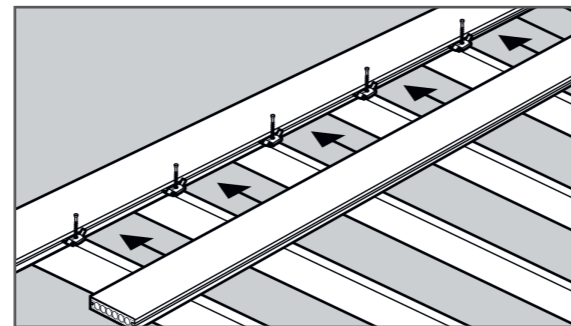

FIG. 4
- 2 Lay the next row of **boards** flat on the joists and slide into position. (fig. 4)